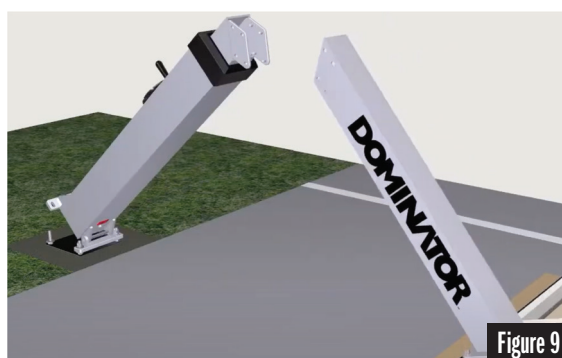

Figure 9
- Hold the Base Pole & the Extension Arm at a 45 degree angle. See Figure 9.